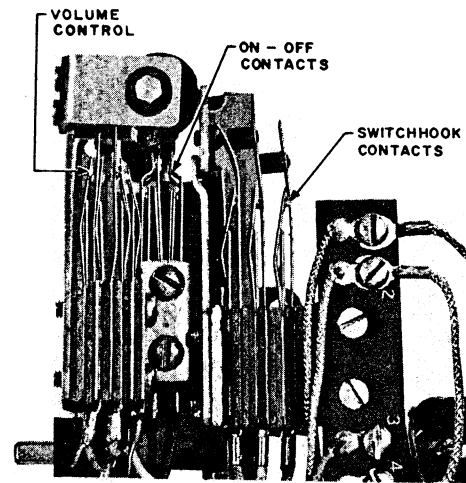

Fig. 5 - Contact Assembly
- If contacts test open, clean using a 265C tool with a clean blade. If trouble still exists, carefully make adjustments with a 363 tool. If adjustment cannot be made satisfactorily, replace set (see Fig. 5).